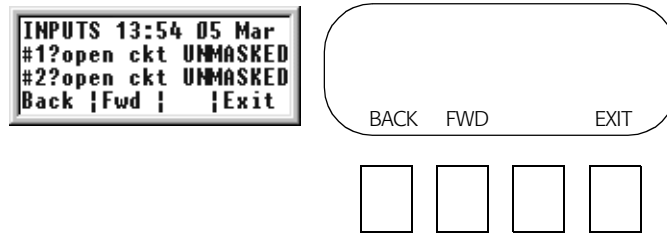

Figure 14: Input Status Menu
- If you press INP STAT, a screen like Figure 14 appears: